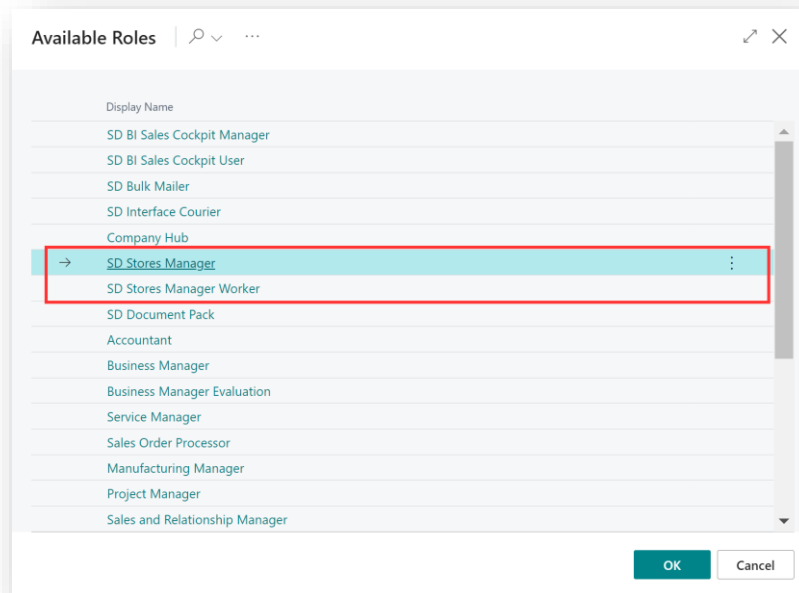

Figure 4-8
3. You should see **SD Stores Manager** and **SD Stores Manager Worker** in the list of Roles (Figure 4-8).